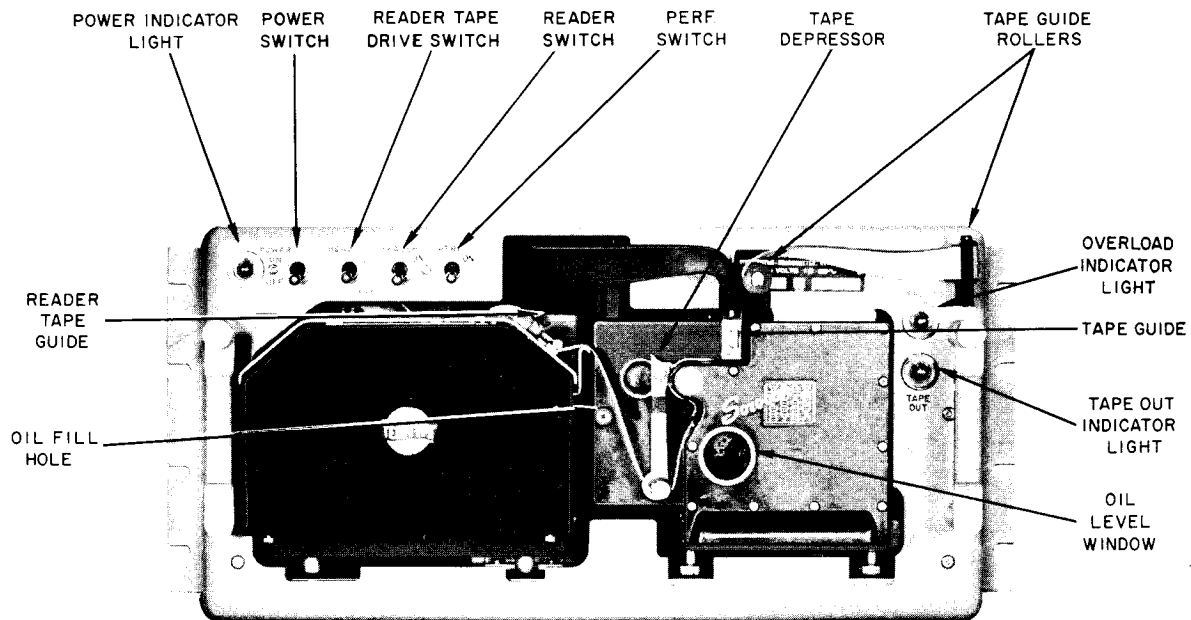

Figure 3-1. Perforator-Reader, Location of Controls and Indicators on Front Panel
a. DESCRIPTION OF CONTROLS. - Operating controls are located on the front panel (figure 3-1). Control designations and functions are as follows:
(1) POWER SWITCH. - The 117-volt a-c power is applied to the perforator-reader through two fuses and a double-pole, single-throw toggle switch marked POWER. When this switch is in the ON position, the neon indicator lamp next to the switch on the front panel will light.
(2) DURING USE. - Place PERF switch (figure 3-1) to ON, if the perforator is to be used. If the reader is to be used with the perforator, place READER switch and READER TAPE DRIVE switch to ON positions. (If the reader is to be used without the perforator, place PERF switch to OFF position.) Place POWER switch to ON; panel power indicator lamp should light, and the perforator and reader motors should start (if both are used), and should run continuously. Punching of paper tape, and reading from the tape, are automatic. Both of these operations are started and stopped by incoming signals.
(3) SECURE. - Place all four toggle switches on the front panel to OFF position. Remove chad from chad collector.
(1) PERFORATOR. - The operator can check the performance of some parts of the perforator. However, because of the extremely close tolerances to which the perforator has been machined and assembled, the operator should not make any adjustments and should not replace any parts in the perforator itself. Two belts are used to drive the perforator; if these should break, a timing adjustment should be made by maintenance (not operating) personnel when new belts are installed. The accuracy of the feed may be checked by operating personnel by using a precision scale and measuring the distance between 60 consecutive sprocket (not data) holes; this distance should be 6 ± 0.005 inches.
(2) READER. - For information about reader, refer to NAVSHIPS 92733.
(3) DRAWER. - Components in the electrical equipment case (drawer) require no routine checks and no adjustments other than those given in paragraph 3-3 and in paragraph 6-2 c.
b. ROUTINE CHECK CHARTS. - The routine preventive maintenance procedures which are to be performed by the operator are given in paragraph 6-1 b (1).
c. EMERGENCY MAINTENANCE. - Emergency maintenance is performed by the operator only in the event defective equipment must be repaired when maintenance personnel is not available. The emergency maintenance which can be performed consists of replacement of line fuses. The two fuses in the 117-volt power line are located inside the drawer between the reader and perforator motors. To replace the fuses, place POWER switch (figure 3-1) to OFF. Release locks on drawer handles and pull perforator-reader out of the drawer to the stop limits. Take out blown fuses and insert new ones. Place POWER switch to ON. Place PERF switch to ON. Check fuses; if they blow, there is a short circuit in the timer or perforator motor circuit, or the motor is overloaded. If possible, correct the short circuit or remove the overload; if not, equipment must be repaired by maintenance personnel. If fuses do not blow, place READER switch to ON. Check fuses; if they blow, there is a short circuit in the reader motor circuit, or the reader motor is overloaded. If possible, correct the short circuit or the overload; if not, equipment must be repaired by maintenance personnel. If fuses do not blow, place READER TAPE DRIVE switch to ON. Check fuses; if they blow, there is a short circuit in the tape reader tape drive clutch circuit. If possible, correct the short circuit; if not, repairs must be made by maintenance personnel.
(1) PERFORATOR. - The perforator drive motor has sealed bearings which need no periodic lubrication. The perforator mechanism is splash-bath lubricated. Correct oil level in the perforator is indicated by lines on the transparent cover of the oil level indicator. When the oil level drops below the lower line while the perforator motor is not running, add oil through the oil fill hole (figure 3-1). Remove the screw from the oil fill hole, fill an eye dropper or small oil can with Lubriplate #1 oil or equivalent, and force oil through oil fill hole until oil reaches correct level. Close oil fill hole with the oil fill hole screw.
(2) DRAWER. - Components of the drawer which need occasional lubrication are those which are part of the slide mechanism. Use a good grade of lubricating grease, and apply sparingly.
(3) READER. - For information on reader refer to NAVSHIPS 92733.